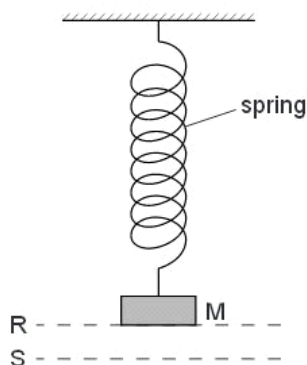

Fig. 6.1
- (b) A spring is attached to a support and hangs vertically, as shown in Fig. 6.1. An object M of mass 0.41 kg is attached to the lower end of the spring. The spring extends until M is at rest at R.
- (c) The object M in Fig. 6.1 is pulled down a further 0.060 m to S and is then released. For M, just as it is released,
- (d)** Describe and explain the energy changes from the time the object M in Fig. 6.1 is released to the time it first returns to R.